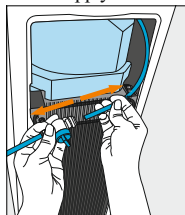

Figure 9
5.2 Turn off the water supply via the shut off valve, and disconnect the water supply from the cooler (Figure 9).